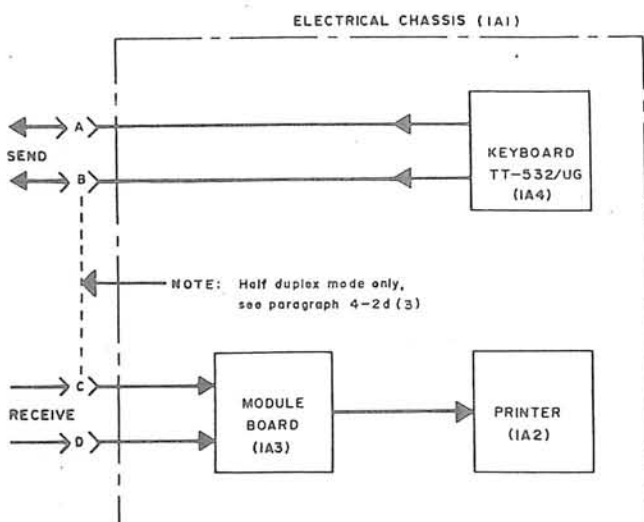

Figure 4-1. Teletypewriter, Simplified Block Diagram (On-line, full duplex)
a. GENERAL. - Figure 4-1 is a simplified block diagram showing the functional arrangement of the major assemblies of the teletypewriter set. Module board 1A3 consists of a dual range line sensor, line sensor power supply, and electronic time delay motor stop.
d. ON-LINE MODES (full duplex). - On-line mode operation (Figure 4-1) requires a send and a receive signal loop, permitting simultaneous sending and receiving operations. Signal line current must be supplied externally in these modes.
(1) ON-LOW MODE. - The ON-LOW mode is a full-duplex mode for operating signal line currents of 2.5 to 10MA.
(2) ON-HIGH MODE. - The ON-HIGH mode is a full-duplex mode for operating signal line current of 20 to 80 MA.
(3) HALF-DUPLEX MODE. - Half-duplex operation, which provides (monitoring) home copy, can be accomplished in one of two manners: the unit can be patched externally on the ships patching panel by connecting the signal lines to pins A and D and shorting pins B and C of the signal connector (1A1J1), or when it is anticipated that half-duplex mode will be utilized on a continuing basis, the signal lines can be brought in on pins A and D and a shorting strap soldered across pins B and C of the signal connector (1A1J1). When patched in this manner, it is still necessary to correctly position the rotary mode switch for HIGH or LOW current operation, defined in Paragraphs 4-2d(1) and 4-2d(2).